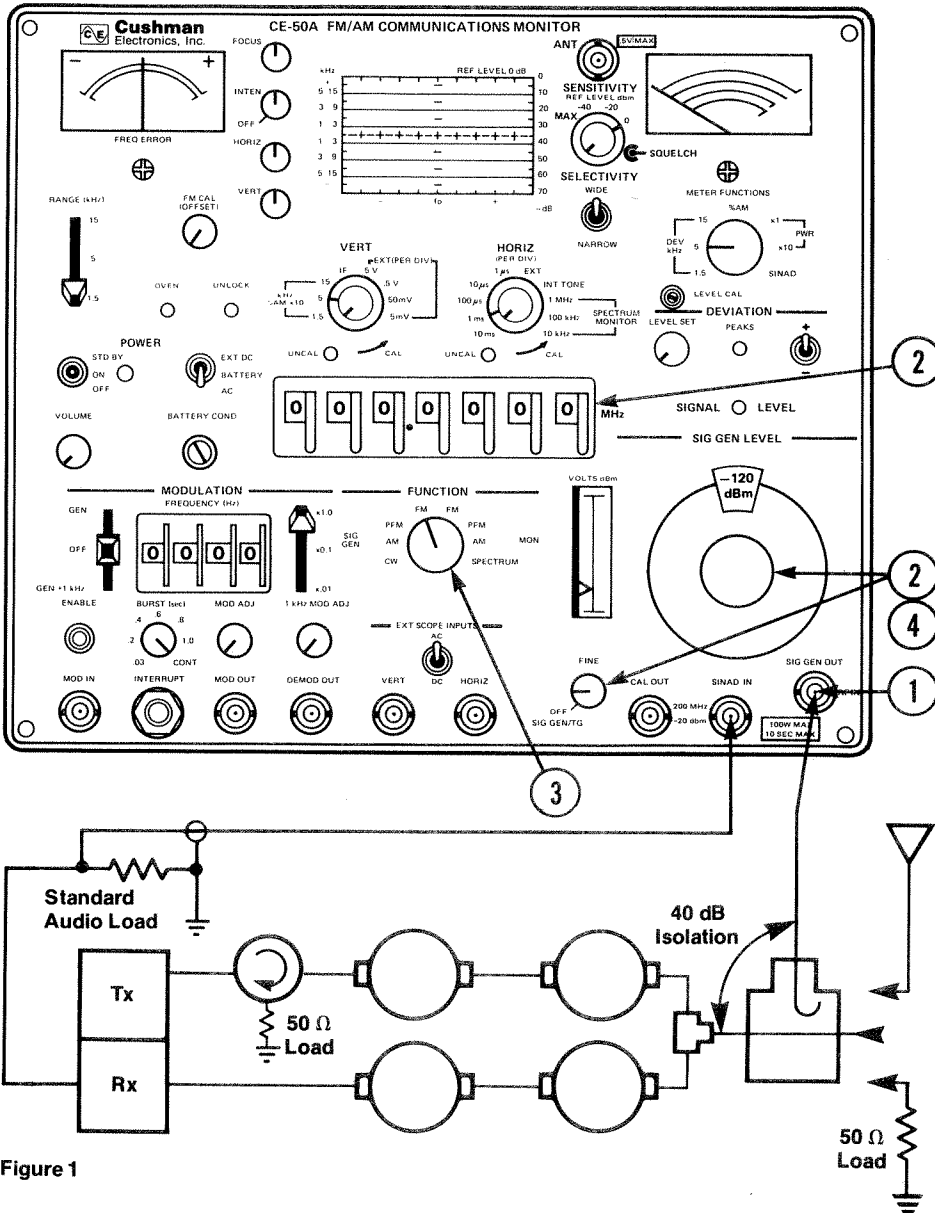

Figure 1
- 1 Connect RF coupler to output of duplexer and terminate output of coupler with 50 Ω. Connect SIG GEN OUT to sampling port on coupler. (See Figure 1).